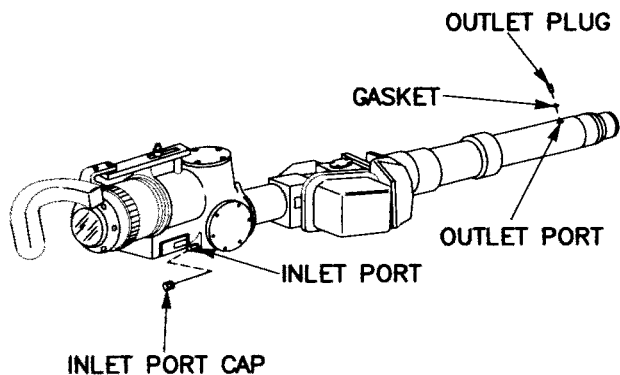

Figure 3-64 M105D Series Telescope
a. Articulated Telescope, M105D (fig. 3-64).
- (1) Remove inlet port cap and outlet plug with gasket attached.
- (2) Perform purging and charging procedure para 2-5.b.
- (3) Purge instrument at 5 psig for 10 minutes.
- (4) Charge instrument at 1 psig for 40 seconds.
- (5) Leak test for minimum of 5 minutes.
b. Articulated Telescope, M105F (fig. 3-64).